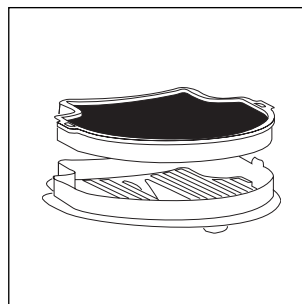

Fig. 24
- Remove the back filter (fig. 24).